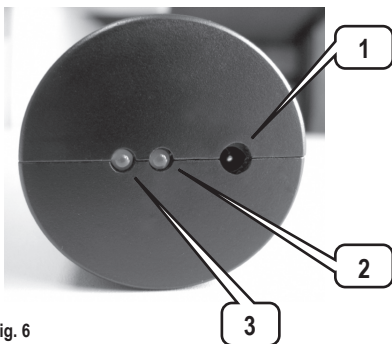

Fig. 6
For charging it is necessary to connect a low-voltage connector of the power adapter to the socket placed underneath the front side of the control panel. (see 1 in Fig.6).
A red LED (see 2 in Fig.6) is lighting while charging (see 2 in Fig.6). When a battery is completely charged, the red LED goes out, and a green LED lights up (see 3 in Fig.6). Charging time of a fully discharged battery does not exceed 5 hours (typical value is 3.5 h).
- 6) To avoid short-circuiting of leads (see 1 in Fig.6) batteries are to be kept in an iso-lated case when not used.